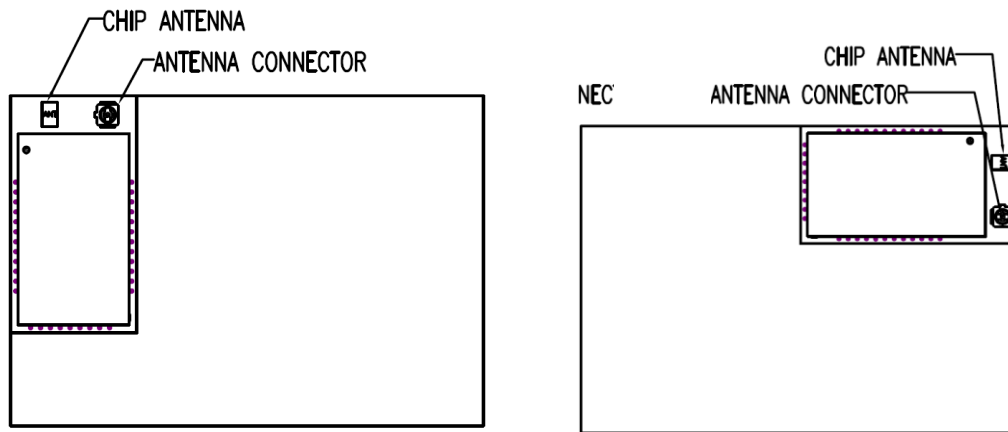

Figure 3: BT730-SA placement in the corner of host PCB.
- For best antenna performance, place the BT730-SA module on the edge of the host PCB, preferably in the corner with the antenna facing the corner. An example shown in Figure 3.